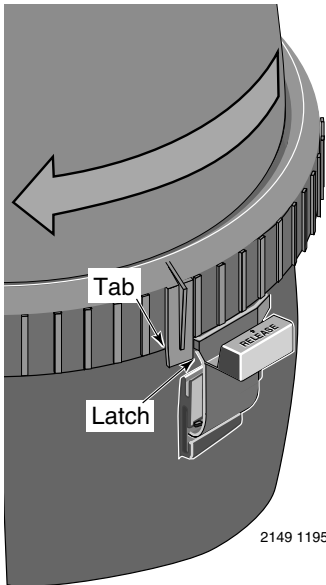

Figure 3 – Rotate Posi-Lok™ Ring until tab locks behind the safety latch.
1. Securely lock Posi-Lok™ ring in place by rotating ring **CLOCKWISE** until it “clicks” past the safety latch (see Figure 3). Stop turning as soon as the ring clicks past the latch. The ring may feel slightly loose, but it will tighten up when pump is on and filter is under pressure.
D. Rotate the Posi-Lok™ clockwise until it locks behind the safety latch (see Figure 3).